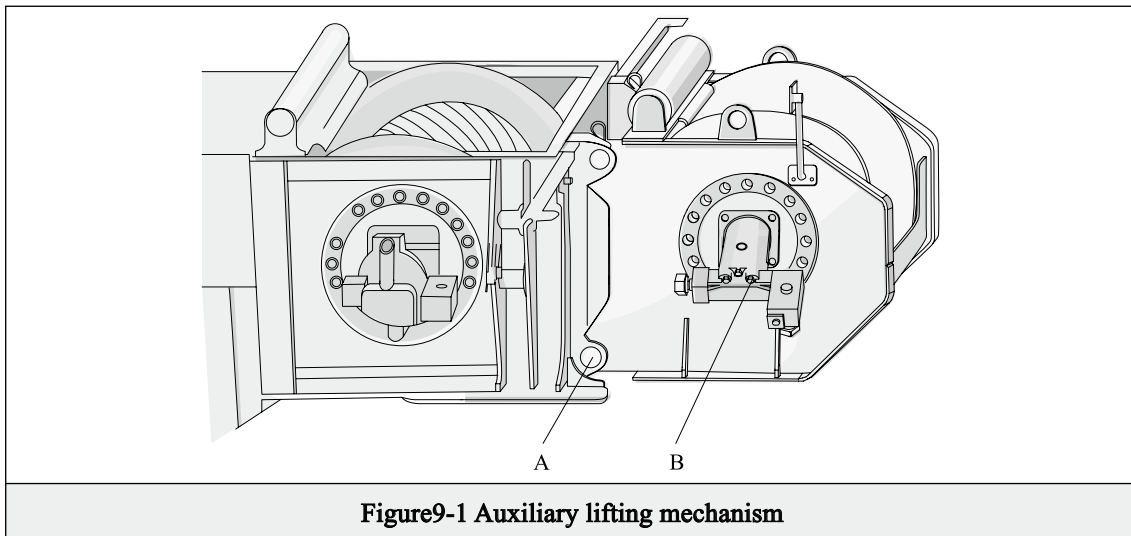

Figure9-1 Auxiliary lifting mechanism
1. Insert the auxiliary lifting mechanism junction plate into the junction bracket plug on the rotary table end (Figure 9-1).